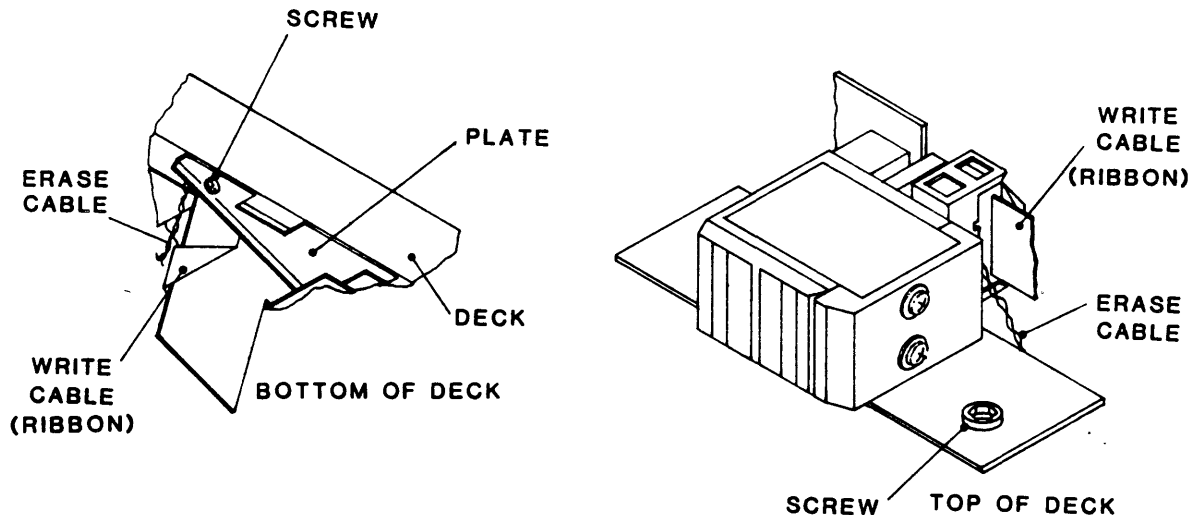

Figure 4-27 Magnetic Head Assembly
4.3.30 MAGNETIC HEAD ASSEMBLY (Figure 4-27)